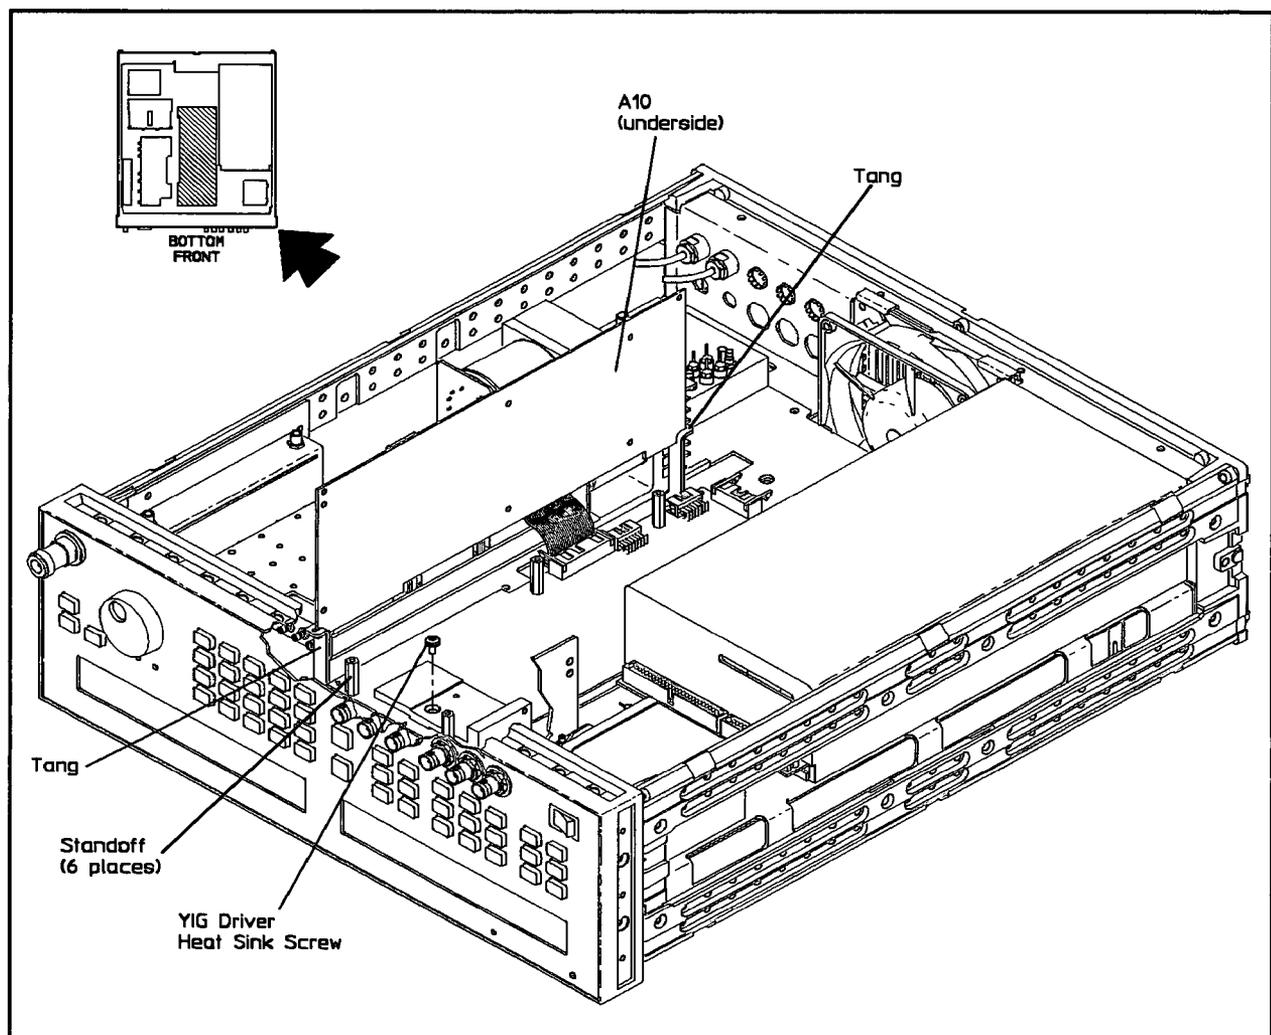

Figure 5-26. YIG Driver Board Service Position
3. Using a size 10 TORX® screwdriver, remove the six screws connecting the A10 assembly to the standoffs and the A9 assembly. See Figure 5-26.
4. Insert the ALCboard assembly, A10, into the tangs on the frame as shown in Figure 5-26.
1. Using a size 10 TORX[®] screwdriver, remove the screw from the heat sink as shown in Figure 5-26.